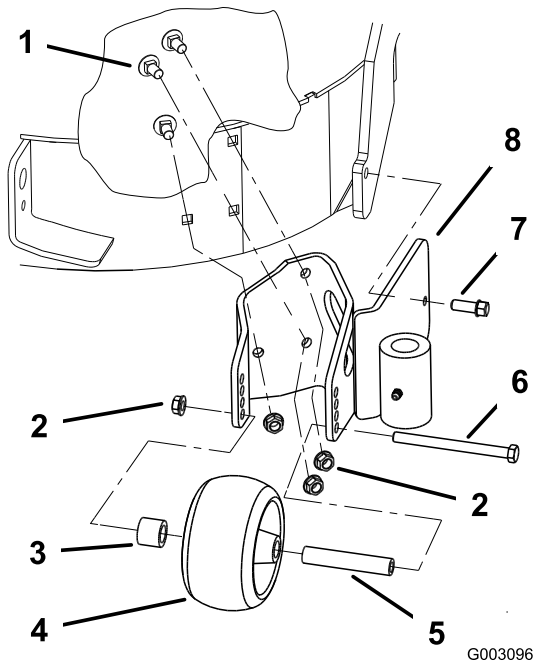

Figure 1
1. Remove the gage wheel from the existing mounting plate (Figure 1). Save this hardware.
2. Remove the existing mounting plate from the mower deck (Figure 1). Save this hardware.